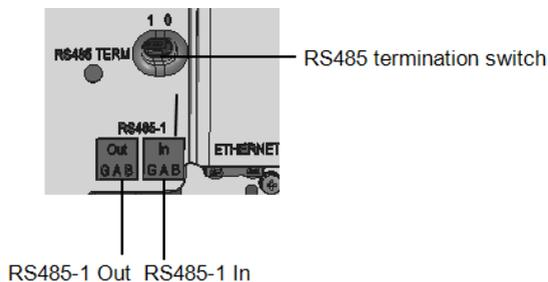

Figure 40: RS485 connectors and termination switch
- Push the RS485 terminal blocks firmly all the way into the connectors on the communication board, see *Figure 40*.
11. Terminate the first and last inverters on the bus by moving the termination switch to ON (left position); See *Figure 40*. The other inverters on the bus should have the termination switch OFF (right position).